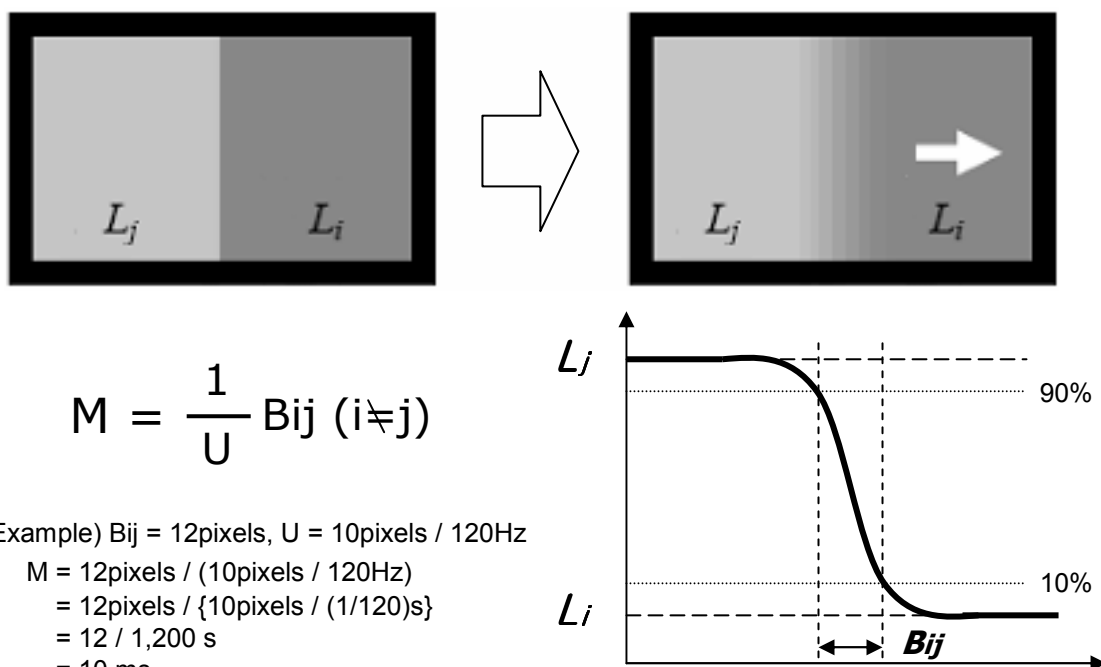

FIG. 4 MPRT
5. MPRT is defined as the 10% to 90% blur-edge width B_{ij}(pixels) and scroll speed U(pixels/frame) at the moving picture. For more information, see FIG 4